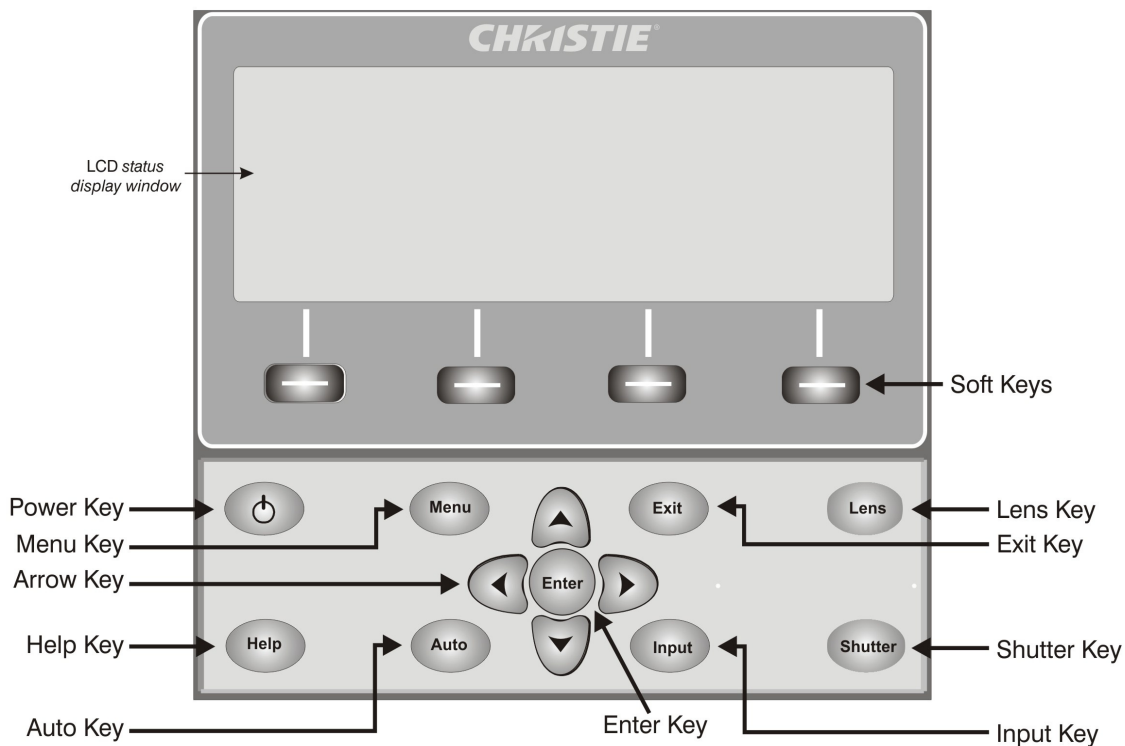

FIGURE 3-2 BUILT-IN KEYPAD
- **Built-in Keypad:** Located at the side of the projector, see Figure 3-2 Built-In Keypad.